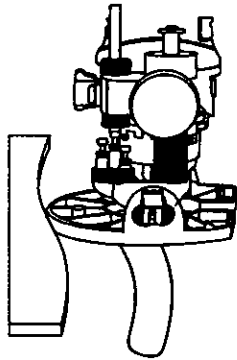

Fig. 21
- 1 Make a template from hardboard or other similar material to the shape you require (see Fig 21)